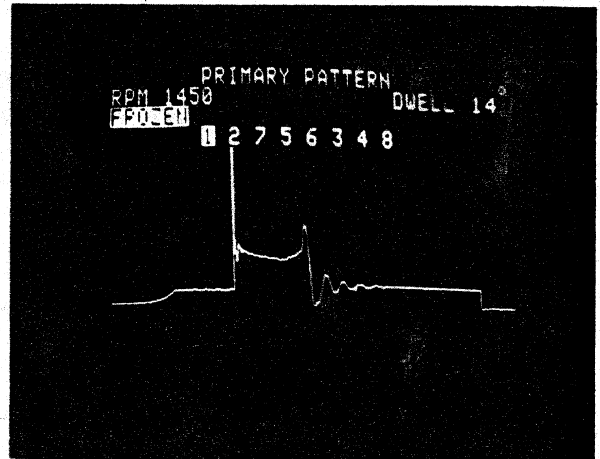
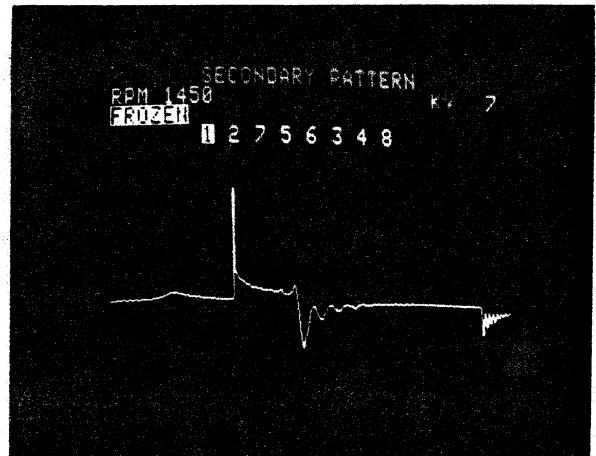

Fig. 5-1
Fig. 5-2
Primary and secondary pattern screens (Figs. 5-1, 5-2, & 5-7) give you graphic "pictures" of what's going on within an ignition system. The pictures are used to (1) determine if the ignition system is functioning properly or (2) locate ignition system malfunctions. Each specific phase of ignition system operation is represented on primary and secondary ignition voltage waveforms (Fig. 5-1 & Fig. 5-2). The condition of a vehicle's ignition system can be determined by observing the waveforms and relating the sections of the waveform to the phases of ignition system operation they represent. Malfunctions are identified by waveform movement uncharacteristic to the ignition system being tested.